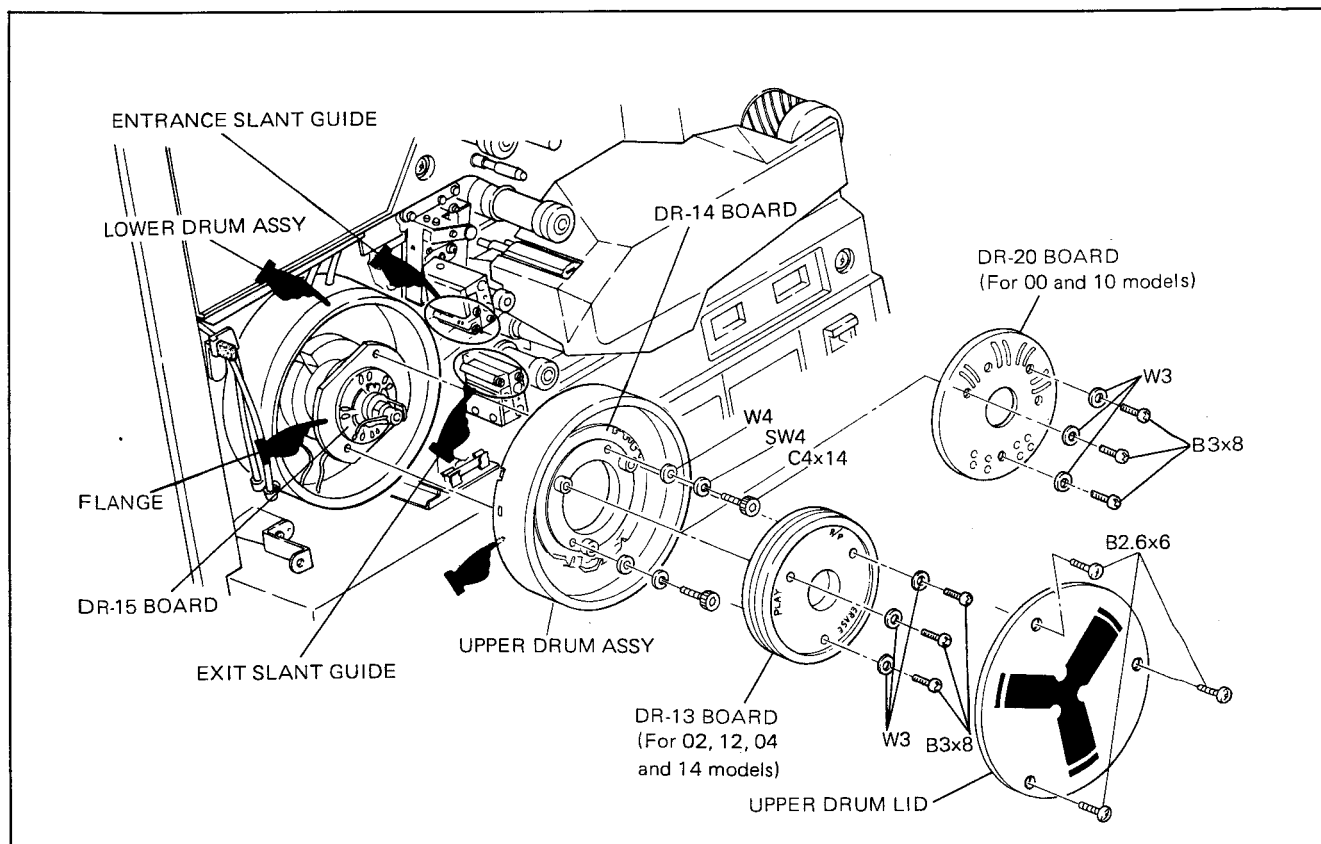

Fig. 3-6. Replacement of Upper Drum Assembly
4. Clean the following parts with cloth moistened with cleaning fluid. Refer to Fig. 3-6.